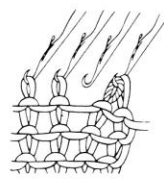

Fig.58-1
- Using the single eye transfer tool, transfer the stitch from the second needle onto the first needle. (Fig.58-1)